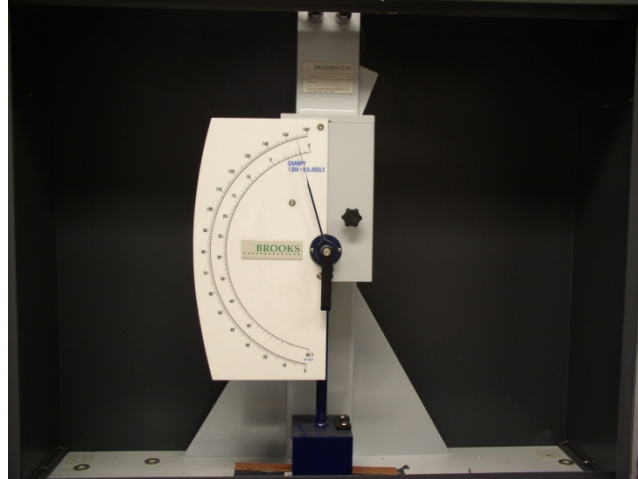

Figure 1.3.1. Charpy impact testing machine.
- Charpy V-notch impact testing machine (figure 1.3.1)